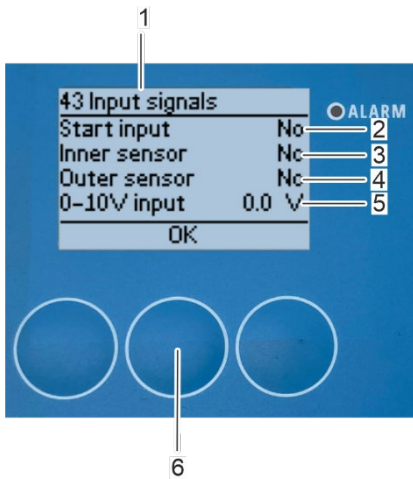
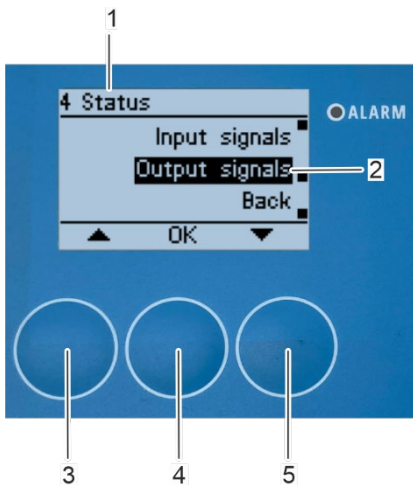

Fig. 177: Submenu "43 Input signals"
Fig. 178: Open submenu "Output signals"
⇒ The "43 Input signals" submenu appears on the display (Fig. 177/1) showing the actual status of the "Start input" (Fig. 177/2), the "Inner sensor" (Fig. 177/3), the "Outer sensor" (Fig. 177/4) and the "0-10 V input" (Fig. 177/5).
The input signals "Start Input" (Fig. 177/2), "Inner Sensor" (Fig. 177/3) and "Outer Sensor" (Fig. 177/4) show "Yes" if there is an input signal. The "0-10V Input" (Fig. 177/5) shows the currently applied voltage in a range from 0 to 10 V.
3. Press [OK] (Fig. 177/6) to return to the submenu "4 Status" (Fig. 178/1).
⇒ The "4 Status" submenu appears on the display (Fig. 178/1).
1. Select the "Output signals" submenu (Fig. 178/2) with the arrow keys [up] (Fig. 178/3) and [down] (Fig. 178/5).
2. Confirm the selection with [OK] (Fig. 178/4).